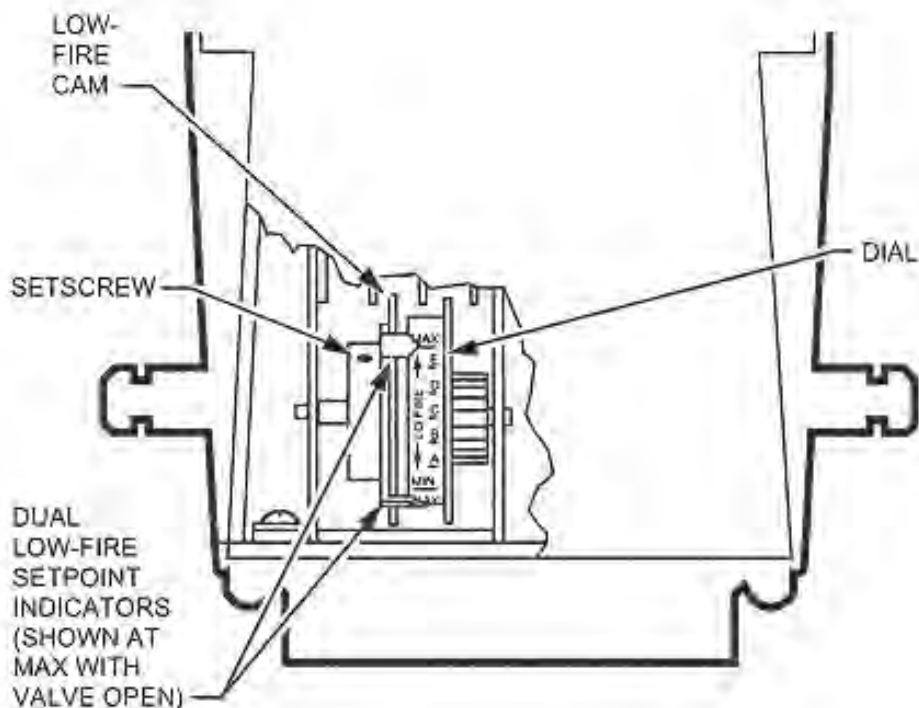

FIG. 58A
Fig. 58A shows the Limit Switch Cam and Scales to indicate direction to rotate cam for increasing or decreasing low fire input on the Honeywell V4062A “Lo-Hi-Lo” Actuator. To adjust the low fire setting after the burners are “on”, the following procedure should be used.
- (1) With power to actuator “off”, remove the wiring compartment cover.
- (2) Check to be sure the low fire adjustment is set at MAX to insure a safe light-off. (Low fire adjustment is preset at factory in the MAX position.)
- (3) Disconnect the controller lead from terminal #4 on the actuator to keep the valve in the low fire position.
- (4) Start the system and establish the main burner flame.
- (5) Loosen the setscrew in the cam (Fig. 58A) with the special wrench taped to inside of actuator cover. Keep the wrench seated in the setscrew. Rotate the cam slightly downward (by moving the wrench toward the base of actuator) to open bleed valve. Actuator will start to close.
- (6) When valve reaches desired low fire position, quickly tighten setscrew and remove wrench. If the desired low fire setting is “missed”, merely loosen the setscrew and rotate cam in the opposite direction to the desired set point.
- (7) Shut down burner, and then restart. Repeat several times to be sure the low fire setting is that desired and suitable for correct burner lightoff. Readjust if necessary.
- (8) Disconnect power and reconnect controller lead removed in step (3) above.
- (9) Replace the wiring compartment cover.